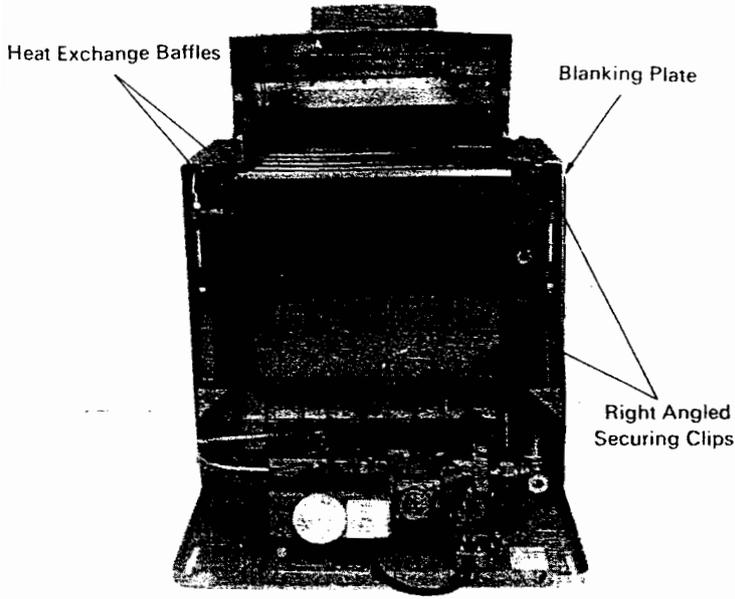

Fig. 3. Boiler Connections
Boiler Connections (Fig. 3)
4. Slide out the baffles from between and above the heat exchanger castings and slide out the blanking plate (Fig. 3).
5. Remove the two right angled securing clips (Fig.3).